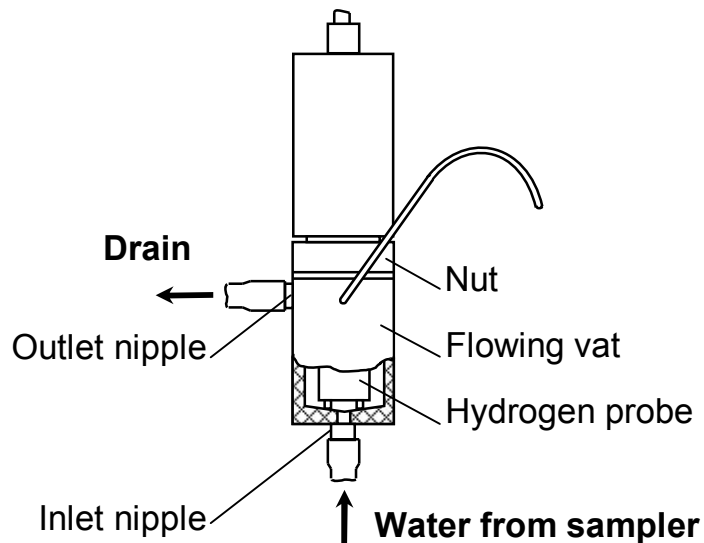

Fig. 2.4 – Probe disposition in the flowing vat in measurements
- push the probe into the flowing vat as shown in Fig. 2.4 as deep as possible (against stop);